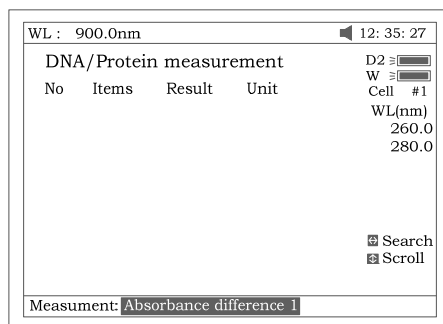
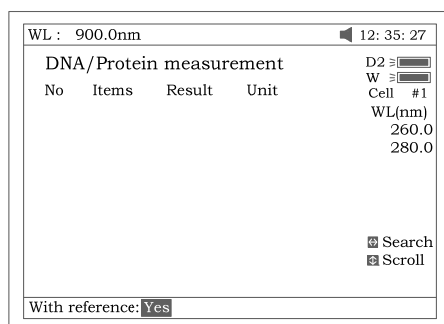

Fig 62
Fig 63
2. Press **[F2]** to select test mode. “Absorbance difference 1” is for testing at the wavelength 260nm, 280nm and 320nm (optional), and the “Absorbance difference 2” is for testing at the wavelength 260nm, 230nm and 320nm (optional, Fig 62). Then select with/without reference. If selected with reference (no), the A ref. will be “0” (Fig 63).